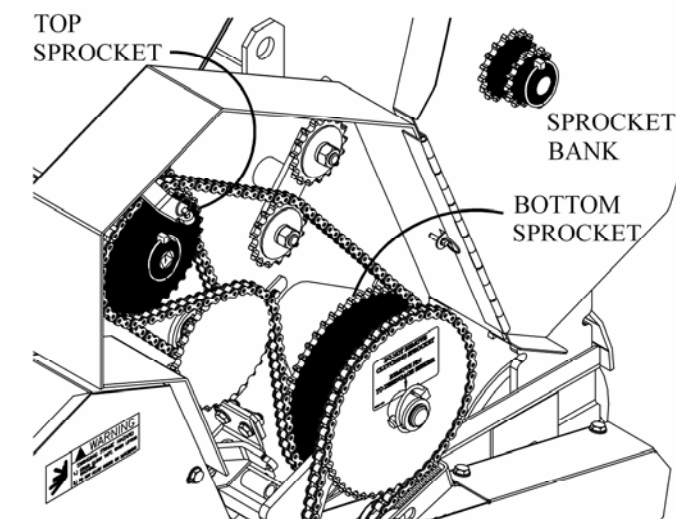

Figure 7c. Black Sprockets
3. Arrange the **black** sprockets as required, as noted in Figure 7c.